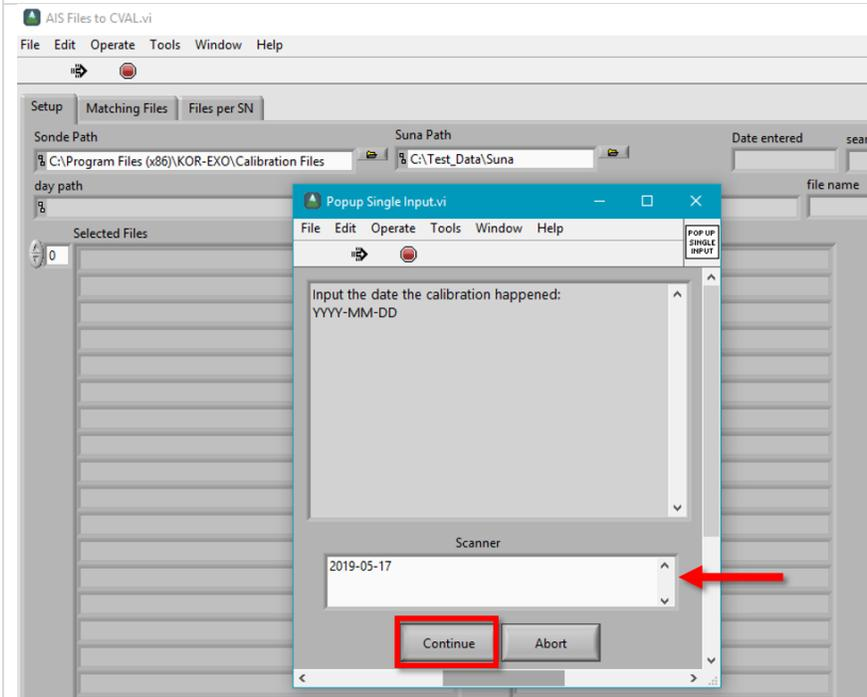

Figure 145. Input date of Multisonde calibration
**STEP 6** | Input the date of the calibration in the following order: YYYY-MM-DD (**Figure 145**).